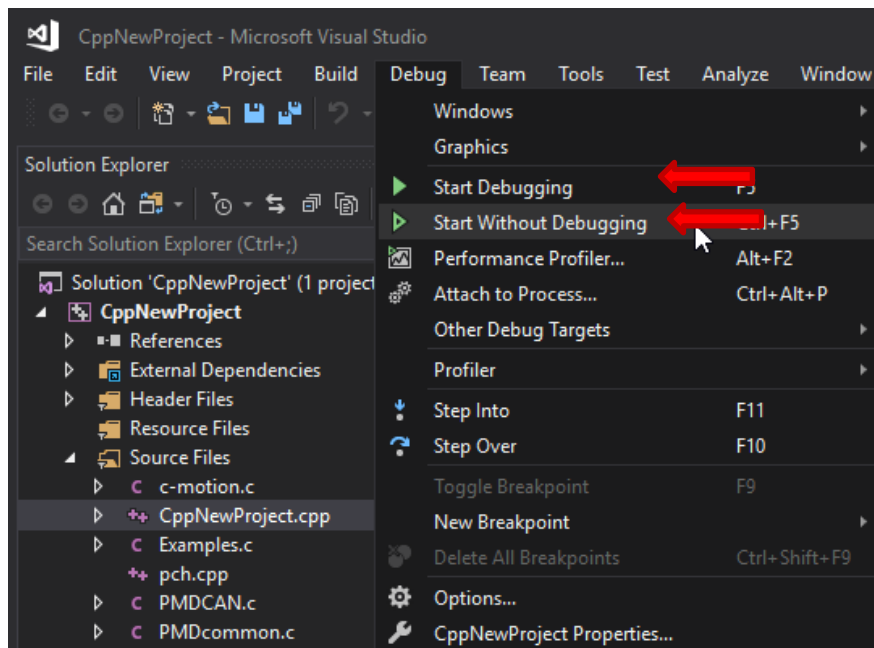

Figure 56 - VS2017 Run Debugging
- 9) Running the program can be done by selecting the debug menu, and selecting either “Start Debugging” or “Start Without Debugging”, see Figure 56 - VS2017 Run Debugging